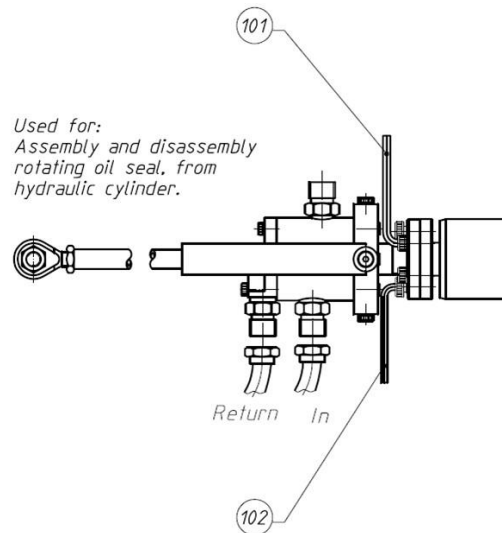

Figure 2
- Using the supplied special adapted allen key (item 101 in Figure 2), pre-align by tightening the four screws to compress the copper gasket so that the gap between the flanges is reduced by $\sim 0,1\text{mm}$ ($0.004''$) compared to gap measured after initial setting.